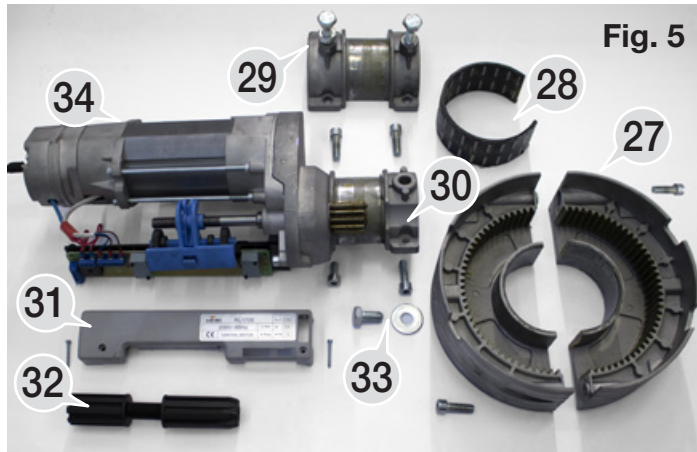

Fig. 5
- At this point the components on the work bench should look something like those indicated in figure 5.